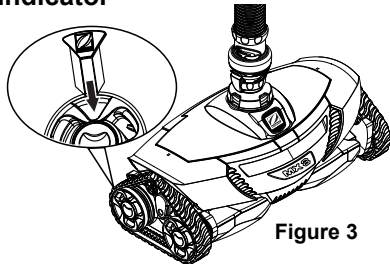

Figure 3
- Snap the yellow Wheel Speed Indicator into cleaner right rear wheel rim (Figure 3).